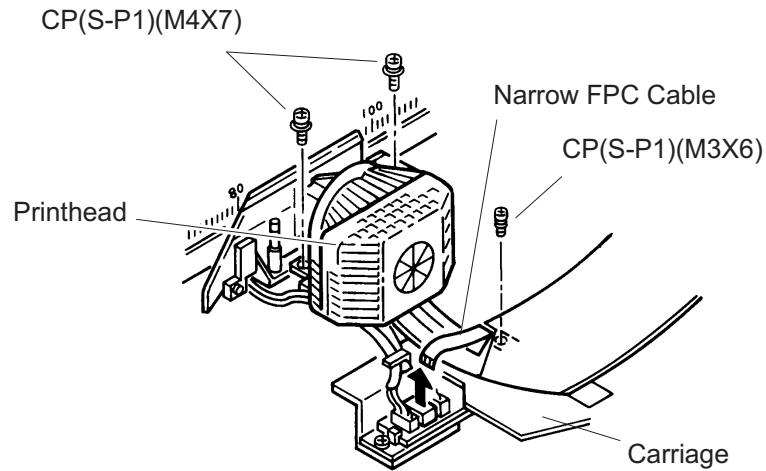

Figure 3-12. Printhead Removal
- *Confirm that the cables are connected correctly. (Refer to Figures 3-12 and 5-3..)*